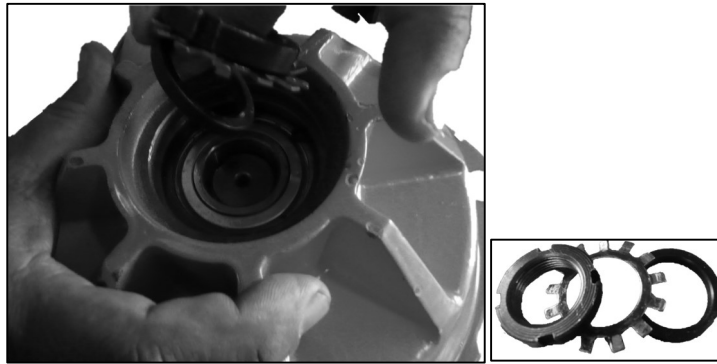

Figure 8.6.1
5. Remove the adjusting nut, lock washer and washer (see Figure 8.6.1).